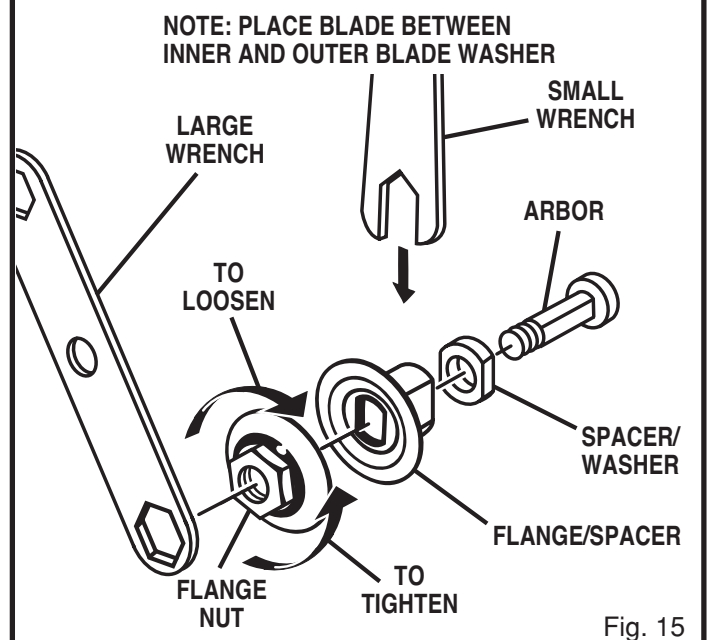

Fig. 15
- Using an adjustable wrench, install the blade guard assembly by loosening the two attachment nuts enough to attach the separator (align holes and tabs). *See Figure 15.* Partially retighten the two attachment nuts. Check the blade and separator alignment.